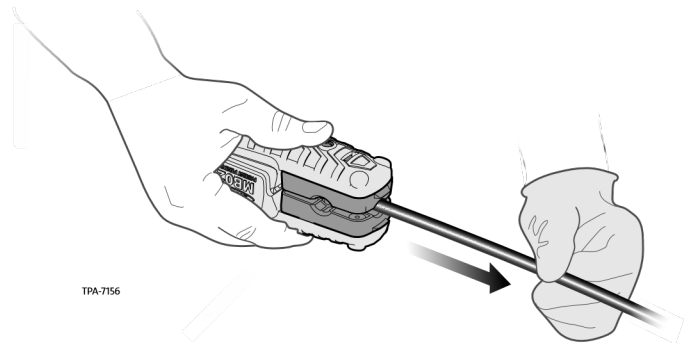

Figure 16
**Step 4:** Press down on the tool and grasp it to maintain pressure. Slide the tool 2-3 inches for a longitudinal score in the direction of the jacket removal. This will make a long cut on both sides of the cable (Figure 16).